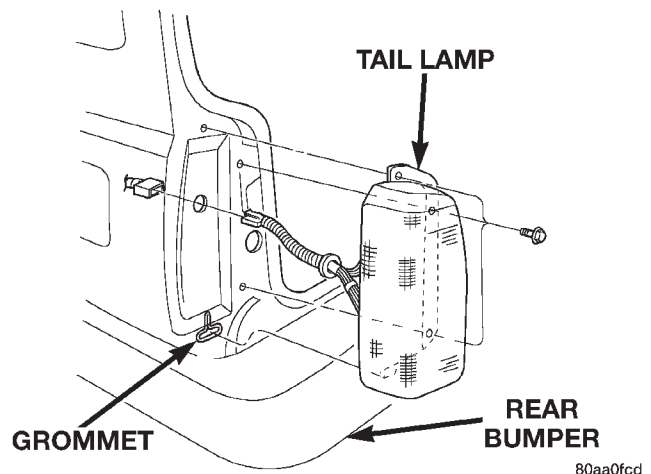

Fig. 6 Tail Lamp
- (1) Open the liftgate.
- (2) Remove the bolts attaching the tail lamp housing to the quarter panel (Fig. 6).
- (3) Grasp the lamp and pull to disengage it from the grommet at the base of the lamp.
- (4) Rotate the bulb sockets one-third turn and remove the bulb sockets from the lamp housing.